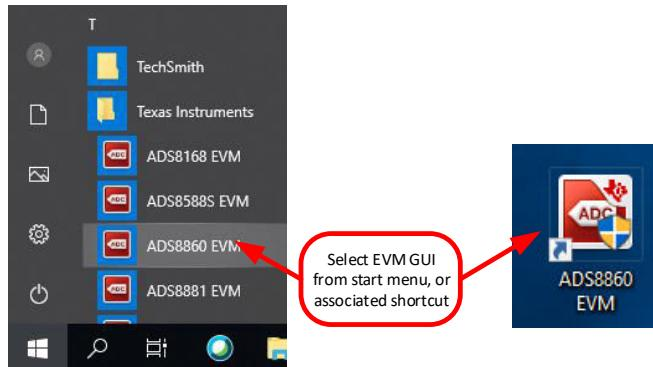

Figure 6-2. Launch the EVM GUI Software
3. Start the software GUI as shown in Figure 6-2. Notice that the LEDs blink slowly while the FPGA firmware is loaded on the PHI. This process takes a few seconds, then the AVDD and DVDD power supplies turn on.